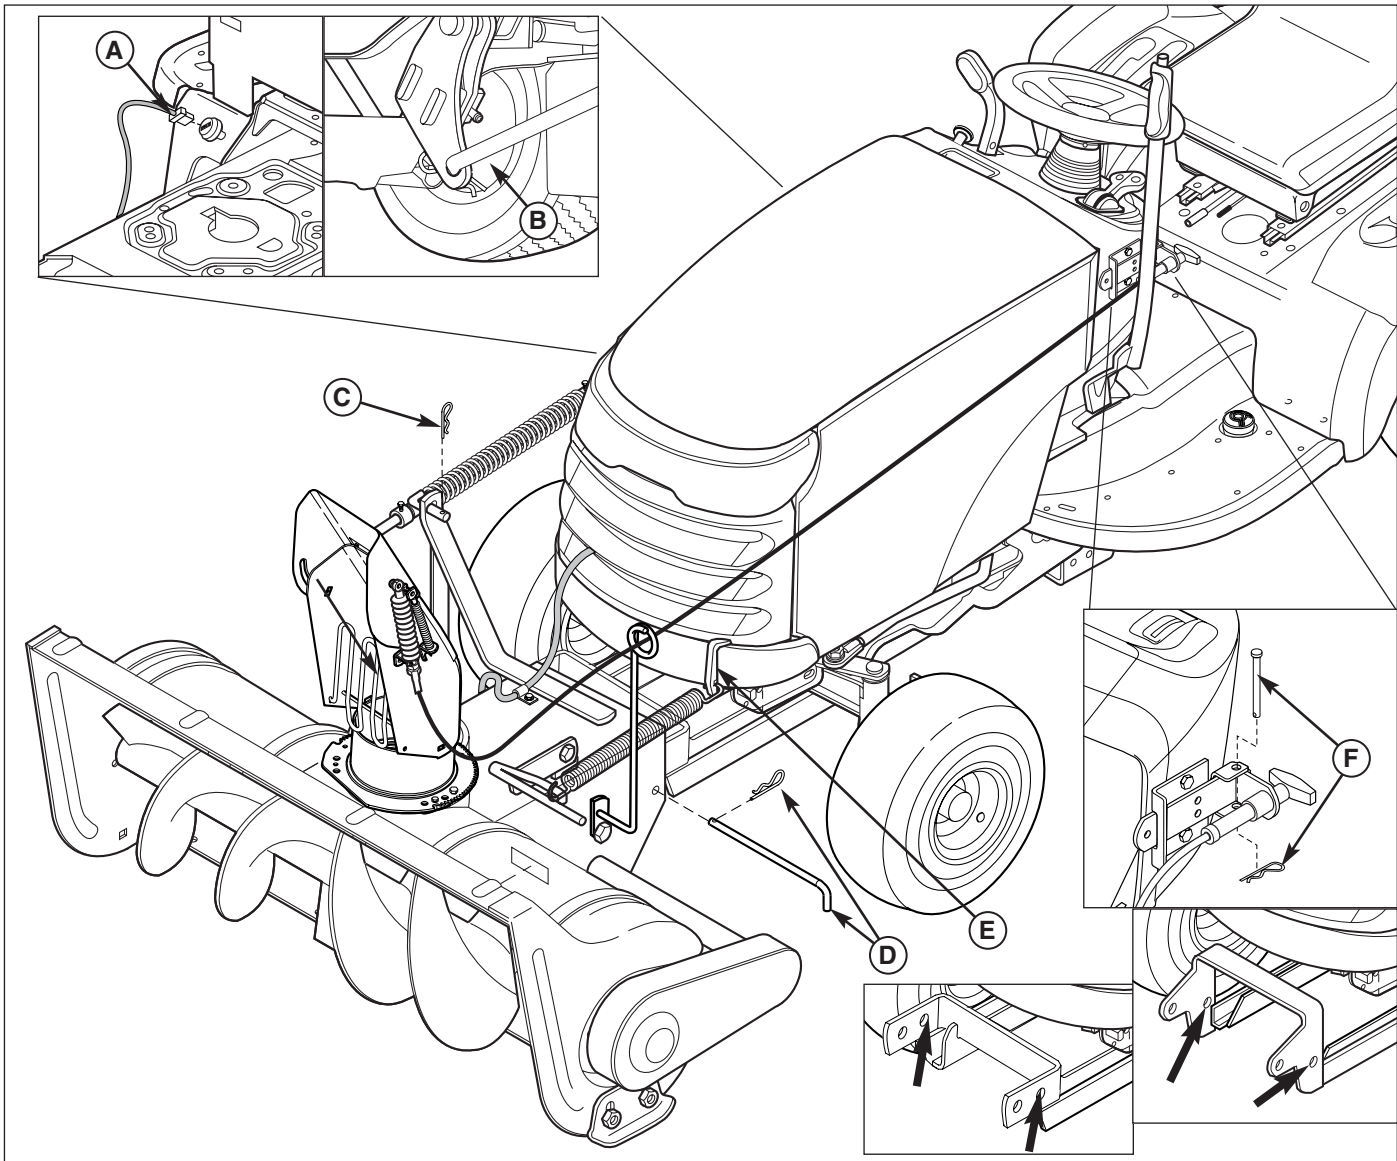

Figure 25. Dozer Removal
2. Release the lift assist spring. Remove the spring and spring bracket (E, Figure 25) from the tractor.
4. Remove the clevis pin and clip (F) from the remote deflector control and disconnect the control from the mounting bracket.
5. Disconnect the rotator motor plug (A).
6. Disconnect the rear of the lift rod (B) from the lift arm extension. Remove the hair pin clip (C) from the front of the lift rod. Remove the lift rod. Remove the lift arm extension from the tractor (see Hitch Installation Instructions).
8. Remove the hitch pin and clip (D, Figure 25) from the snowthrower and remove the snowthrower. Reinstall all pins and clips to prevent loss.
2. Place the snowthrower in front of the tractor and secure to the hitch using the hitch pin and clip (D, Figure 25).
5. Connect the rear of the lift rod (B, Figure 25) to the lift arm extension. Use a hair pin clip (C) to secure the front of the lift rod to the snowthrower.
6. Connect the rotator motor plug (A). Route the harness through the bottom grille grate and along the frame rail as shown.
7. Install the remote chute deflector control to the mounting plate and secure with a clevis pin and clip (F).
8. Fully raise and support the snowthrower with wood blocks. Install the lift assist spring and bracket (E).